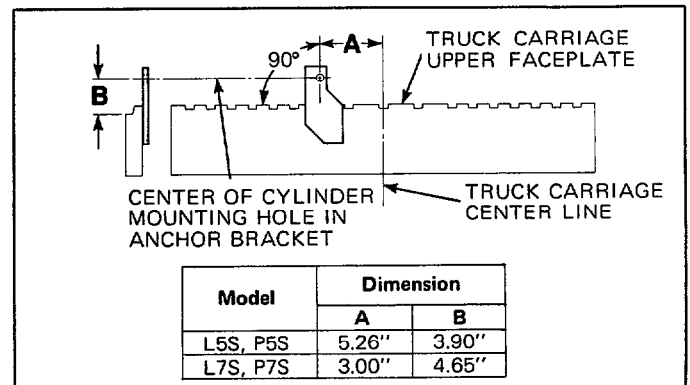

Figure 3. Location of Anchor Bracket
- Locate the anchor bracket on the front side of the lift truck carriage according to dimensions shown in Figure 3. The anchor bracket must be positioned at a true 90° angle to the carriage faceplate.